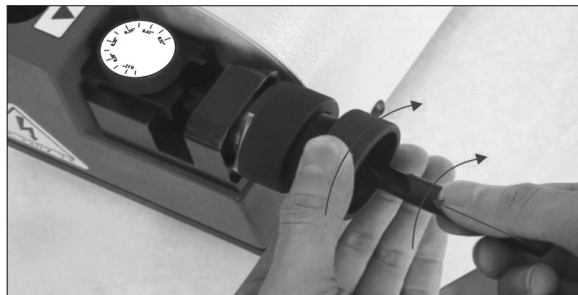

Fig 2
- Set the position of the drill bit (Fig 2)